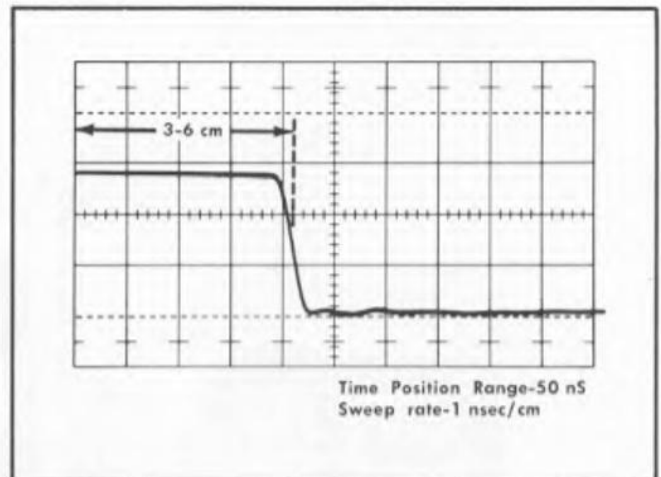

Fig. 5-23. Typical indicator oscilloscope display for checking adjustment of R370 (DELAY ZERO).
- e. Check that the negative-going pulse rise occurs from 3 to 6 cm after the start of the sweep (see Fig. 5-23). This control will be out of adjustment if step 7 was performed.